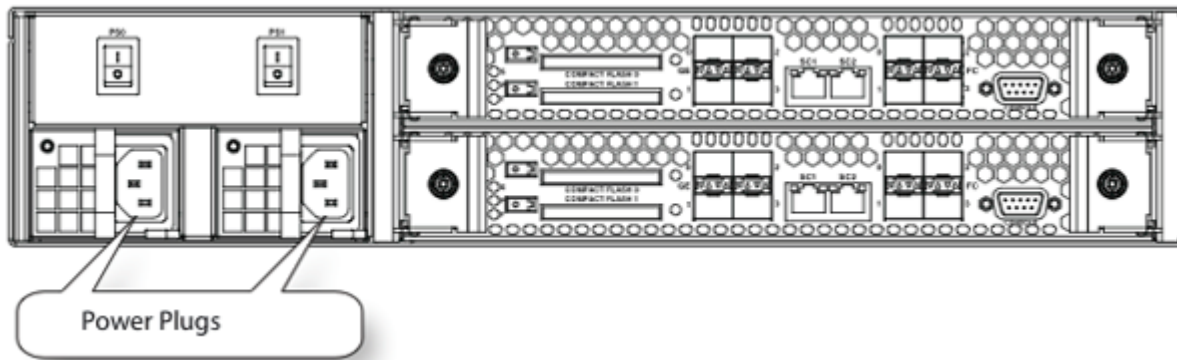

Figure 3-11 ONStor Cougar 6000 Series NAS Gateway Power Plugs
Step 1: Attach the two power cables to the power plugs at the rear of the ONStor Cougar 6000 Series NAS Gateway. See Figure 3-11.